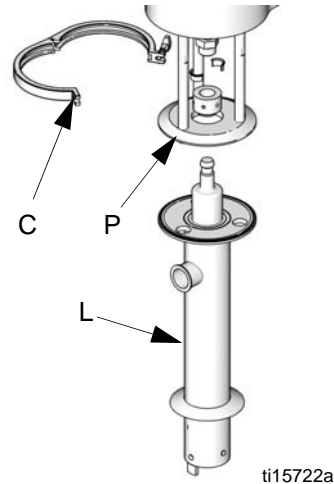

FIG. 5. Disconnect the displacement pump
4. Hold the reducer fitting with a wrench. Use a spanner wrench (T)* to loosen the coupling nut.
7. See FIG. 5. Release the clamp (C) holding the displacement pump (L) to the tie rod plate (P).